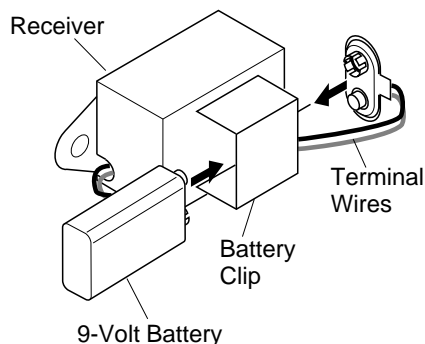

Figure 48 - Installing Battery in Receiver
4. Install battery into receiver battery clip and connect to terminals (see Figure 48).